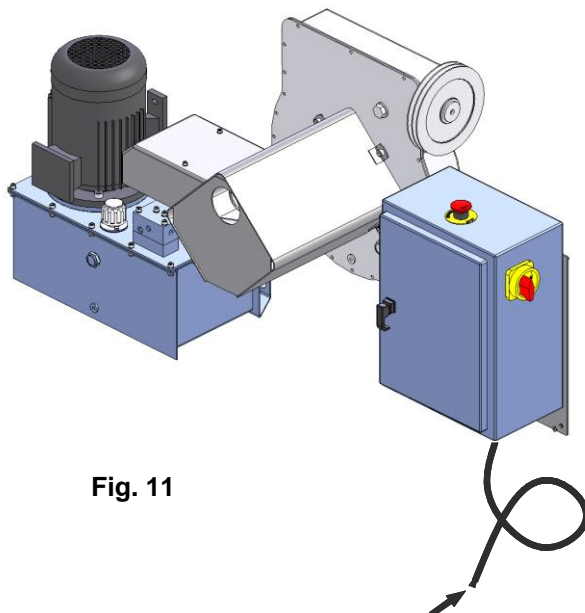
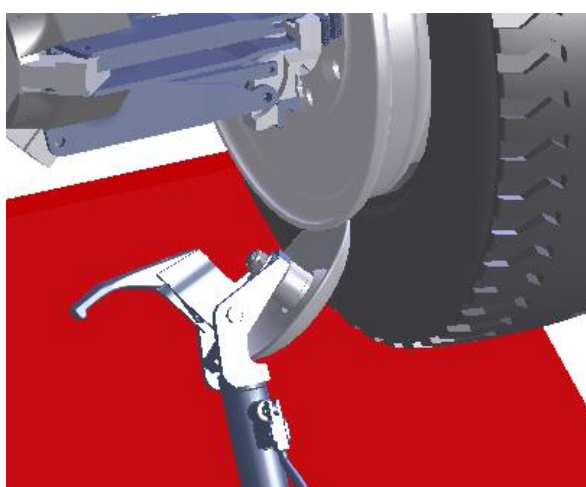

Fig. 11
Fig. 17
- The plug must have an earth terminal. (Fig. 11)
- To demount the back bead proceed as shown in Fig. 11 rotate the tool by 180°, insert it between the rim and the bead, move it against the rim flange and insert the lever (Fig 17) and then rotate the spindle in clockwise direction until the operation is complete.